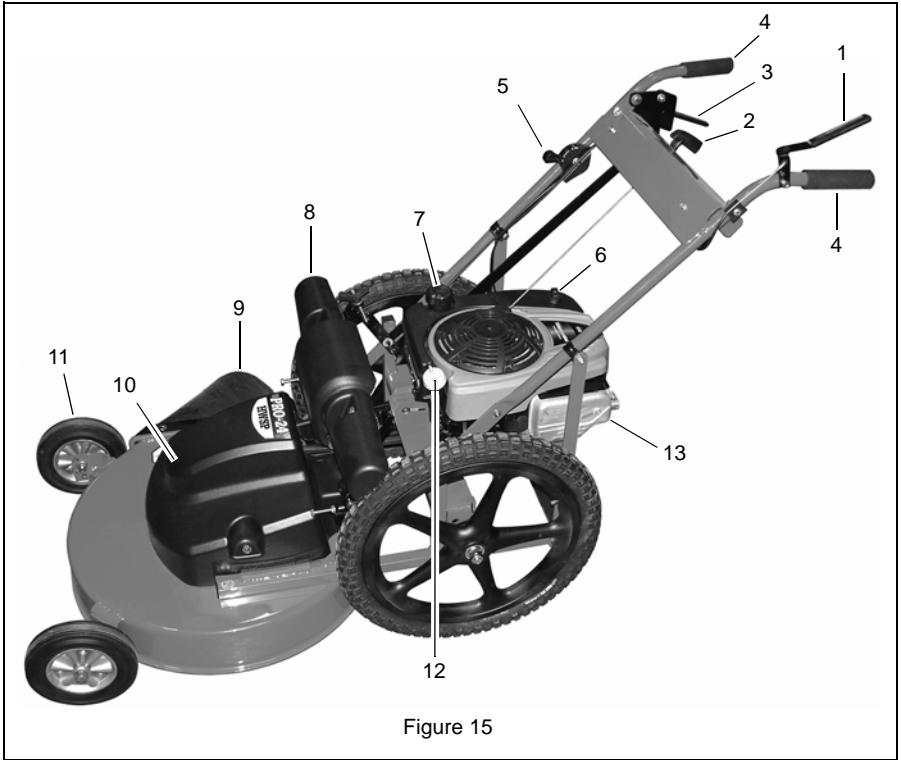

Figure 15
NOTE: The OPC lever (Figure 15, Item 1) is mounted on the left-hand end of the handlebar. The OPC cable is routed down the right side of the handlebar to the front of the engine.
NOTE: The throttle control (Figure 15, Item 4) is mounted on the right-hand side of the handlebar.
4. Check the Operator Presence Control (OPC) feature. Try starting the engine *without* the OPC lever (Figure 15, Item 1) held against the handlebar. Engine must not start. If engine starts, stop engine and bring the unit to your dealer for adjustment or repair.
See Figure 15 for all Controls and Features.